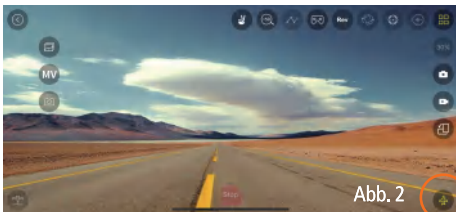

Abb. 2
- For all settings, tap the flight icon (small button at the bottom right) (Fig. 2) to access all control and function options (Fig. 3).